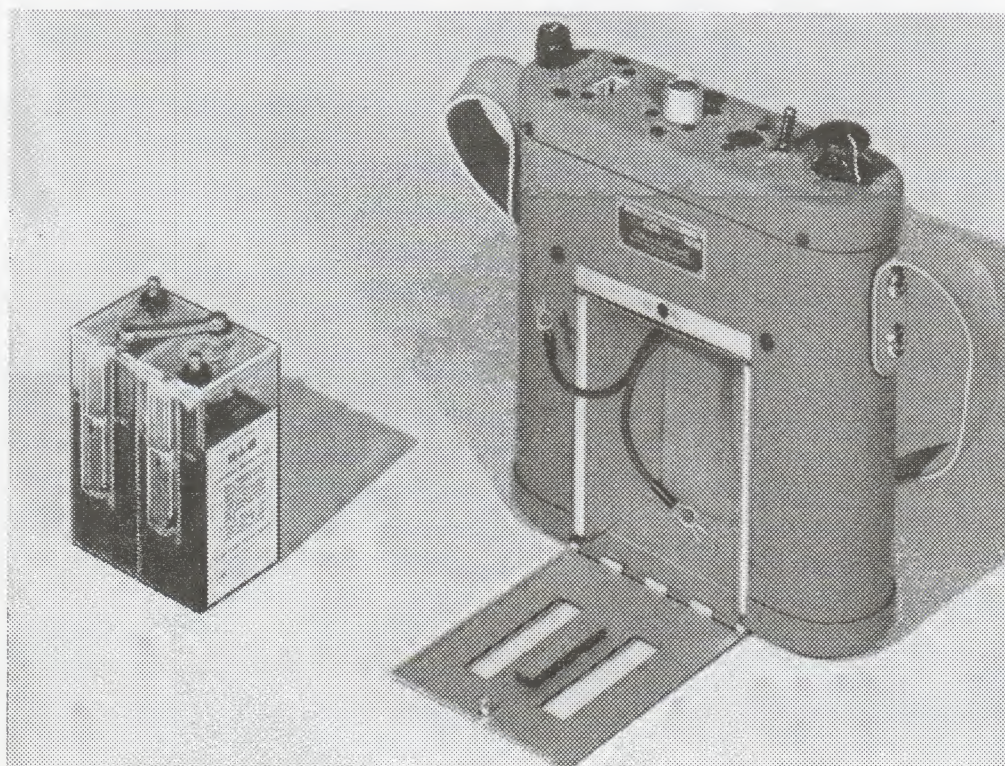

FIGURE 1-A
c. Using the syringe packed with the bottle of 1.28 specific gravity battery solution, fill each cell $1/8$ inch above the "Liquid Level" line marked on the side of the battery case. *Be sure that the spout on the syringe is inserted through the hole in the bottom of the trap compartment before squeezing the bulb.* No liquid should be in the trap. The plates and separators of the battery will soak up some liquid, and initial filling about $1/8$ inch above the line will insure adequate level after this absorption takes place. Observe the precautions on the box containing the battery solution. Take every precaution to see that no acid is spilled on top of the battery during the filling process and that there is no trace of battery acid on the top when the battery is placed in its compartment. (Fig. 1-B)